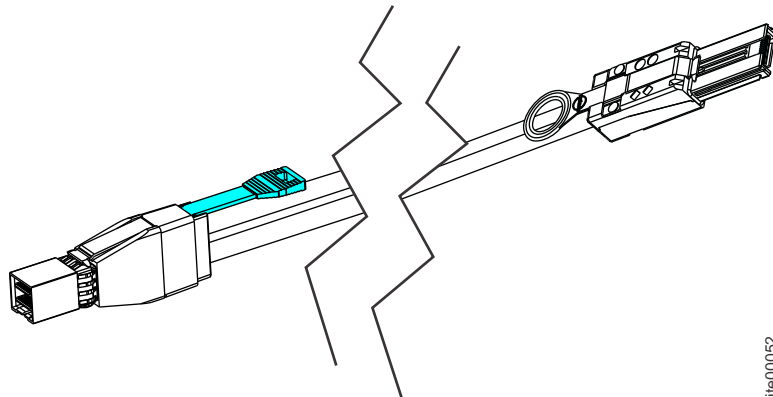

Figure 24. Mini SAS HD to Mini SAS cable
- Mini SAS HD to Mini SAS (Figure 24)